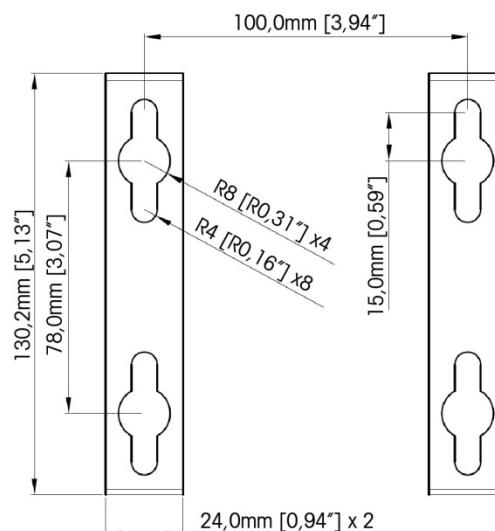
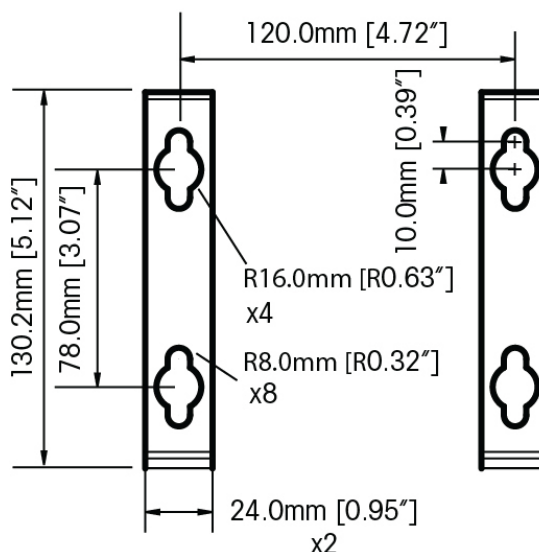

Figure A-16: VESA 100 x 100mm Wall Bracket Mounting Hole Pattern (In IND570 terminals manufactured after April, 2016)
Figure A-17: Original Wall Bracket Mounting Hole Pattern (In IND570 terminals manufactured up to April, 2016)
4. Mark the position of the mounting holes on the vertical surface per the dimensions shown in Figure A-16 and in Figure A-17 or by holding the terminal up to the surface and marking through the bracket holes.